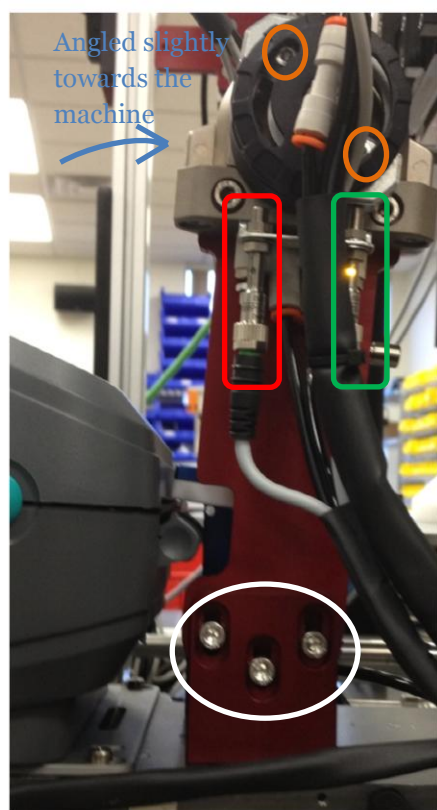
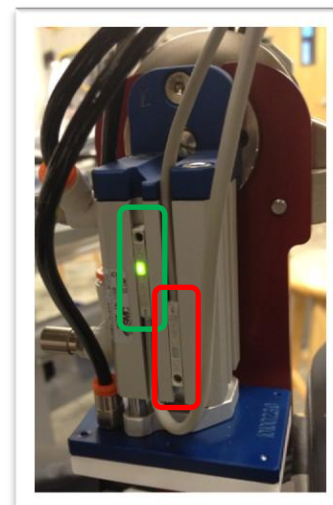
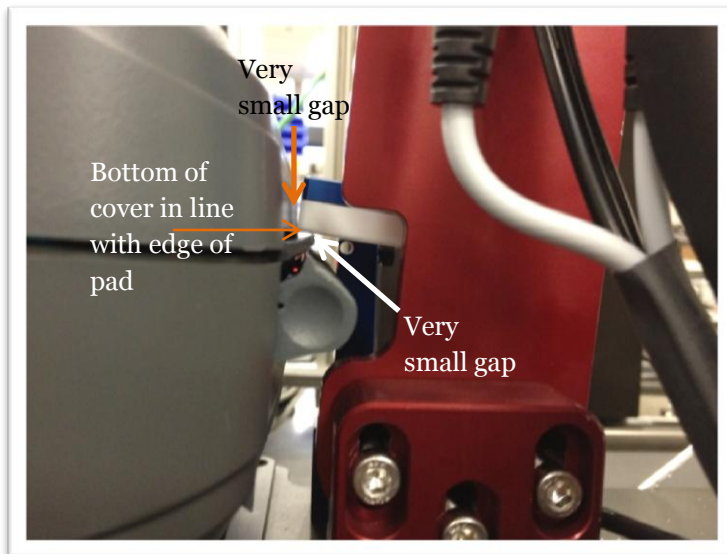

Figure 5.4.16 Label Arm and Rotary Actuator
Figure 5.4.17 Label Arm Vertical
Figure 5.4.19 Label Pad Height and Rotation
There are two actuators and five sensors used to accurately and efficiently apply the label. The vacuum sensor (sec 3.3) indicates when the label has been picked up. The two sensors which indicate rotation are located to the right of the printer (Figure 5.4.16). The sensor that indicates rotation down to the home position is on the right (green). The sensor for rotation into the apply position is on the left (red). There are also two sensors on the arm (Figure 5.4.17) to indicate when
the arm is extended, such as when the label is being picked up or applied. When the arm is in the retracted home position, the top (green in Figure 5.4.17) sensor should be illuminated. When the cylinder is extended, the lower sensor (red in Figure 5.4.17) should be illuminated.
- Adjust the height of the arm using the three screws circled in Figure 5.4.16. Tilt the arm assembly forward (away from the printer) as indicated by the arrow. Adjust the height so the pad comes down just above the peel off bar (as shown in Figure 5.4.19). Tighten screws.
- Adjust the rotation using the stops (circled in orange, Figure 5.4.16) to adjust the arm so that it rotates down to nearly touch the printer lid. Adjust the stops by loosening the screw. Once the screw is loose, rotate arm to desired position and move the stop down into position. Re-tighten screw. The screw is attached to the stop and slides in the groove along the circumference of the cylinder. The pad should